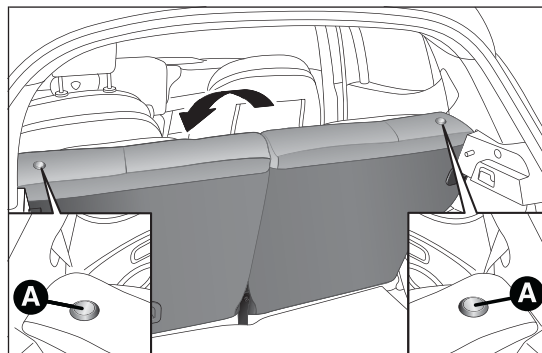

fig. 64
- press release button A fig. 64 to fold the left or the right backrest section then lay the backrest on the cushion.